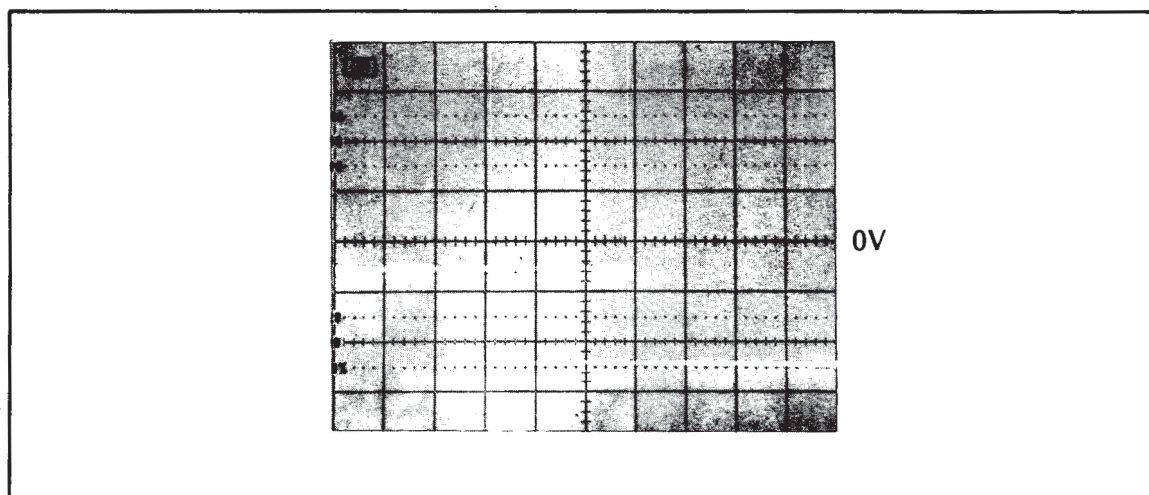

Figure 5-2. Input Amplifier Adjust Waveform.*
- g. Adjust A3R96 (offset) to position the waveform at the center of the screen. Adjust A3R88 (hysteresis) for 20 mV p-p on the X-axis. Refer to the waveform in *Figure 5-2*.
- k. Adjust A3R47 (offset) to position the waveform at the center of the screen. Adjust A3R37 (hysteresis) for 20 mV p-p on the X-axis. Refer to the waveform in *Figure 5-2*. This completes the adjustment of Channel A and B; turn the 5335A off and disconnect all test equipment.